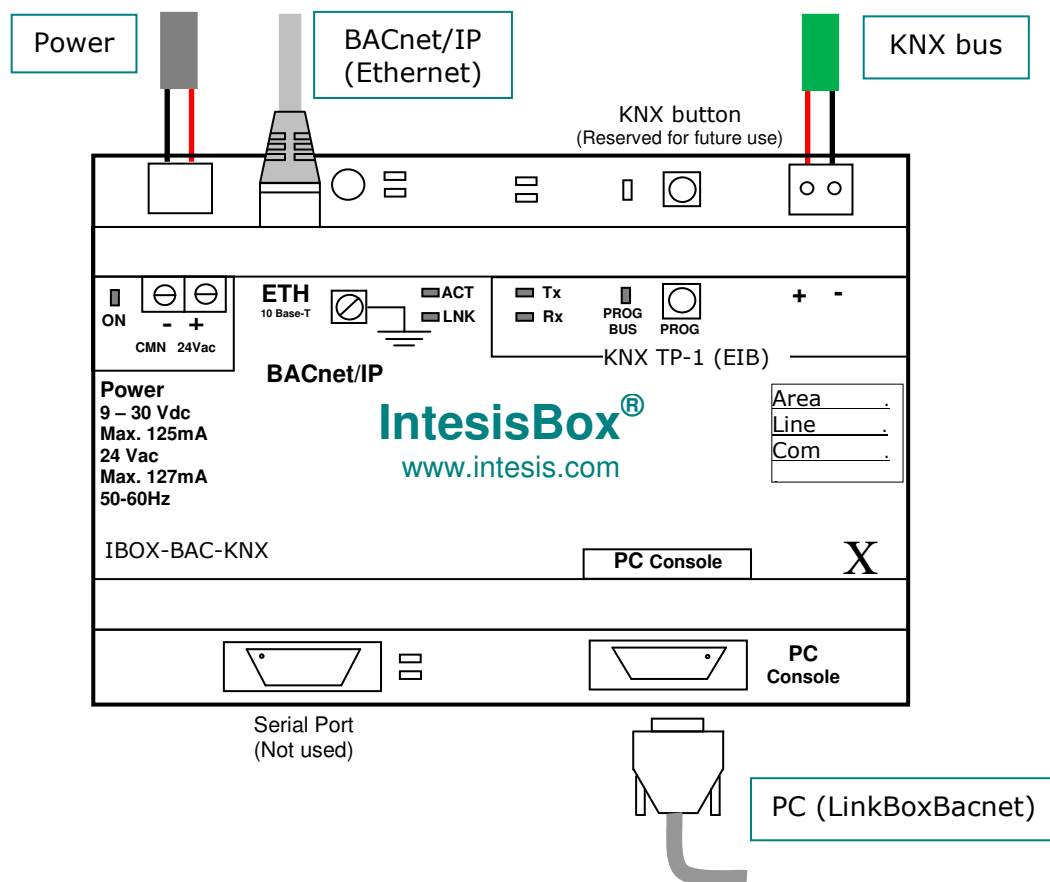

Figure 4.1 Device connection diagram
The first step to perform is to power up the device. To do so a power supply working with any of the voltage range allowed is needed (check section 6). Once connected the ON led (Figure 4.1) will turn on.
Connect + and – terminals of the KNX bus to the IntesisBox KNX connector (Figure 4.1). The polarity is important. Once connected correctly the KNX Tx led (Figure 4.1) will start blinking. If that doesn't happen check that the cable is connected properly.
Connect the communication cable coming from the network hub or switch to the ETH port (Figure 4.1) of IntesisBox. The cable to be used depends on where the IntesisBox is being connected:
- Ethernet: Using the ETH port (Figure 4.1) of IntesisBox. How to check connectivity is explained in section 4.3.
- Serial cable: To connect the device to the PC the serial cable supplied should be plugged to the PC console port (Figure 4.1). The cable is a RS-232 straight cable and its pinout is at explained in Table 4.1.